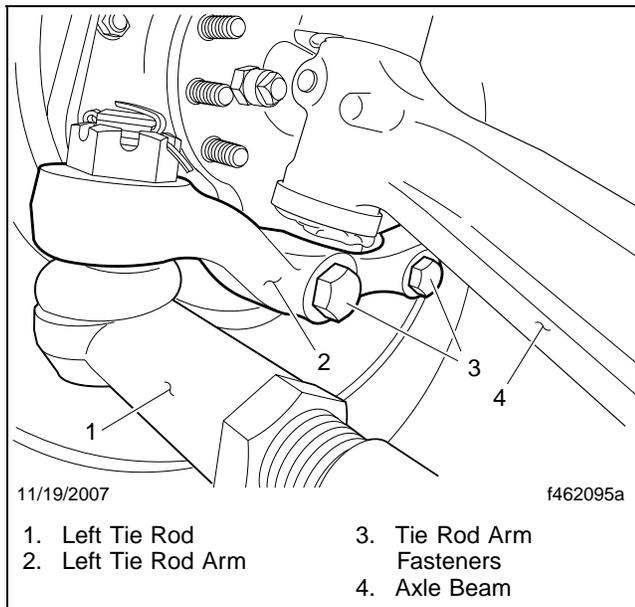
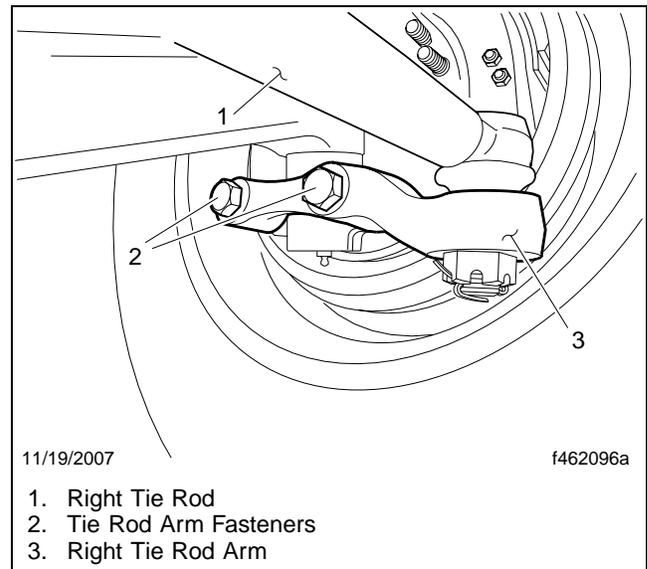

Fig. 1, Left Side of Vehicle
Fig. 2, Right Side of Vehicle
- 6.1 Remove and discard the fasteners that hold the tie rod arms to the steering knuckles. Leave the tie rod arms attached to the steering gear; removing the arms is unnecessary because the gear will be replaced later in the procedure. See **Fig. 1** and **Fig. 2**.